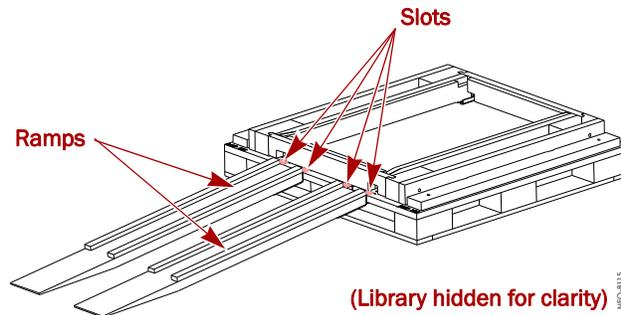

Figure 2-4: Placing the Ramps in Position
1. Remove the ramps from the RAMP box and lay them down, placing the brackets into the corresponding slots on the rear of the pallet (**Figure 2-4**).